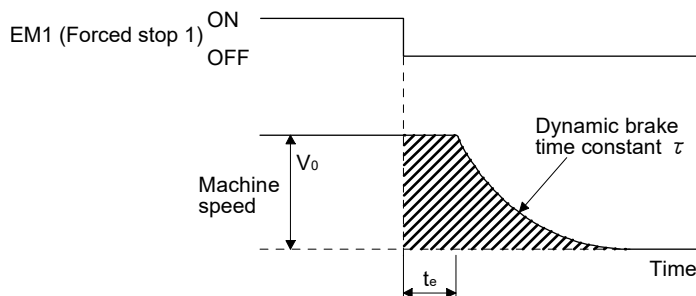

Fig. 16.3 Dynamic brake operation diagram
Fig. 16.3 shows the pattern in which the servo motor comes to a stop when the dynamic brake is operated. Use equation 16.1 to calculate an approximate coasting distance to a stop. The dynamic brake time constant  $\tau$  varies with the direct drive motor and machine operation speeds. (Refer to (1) (b) in this section.)